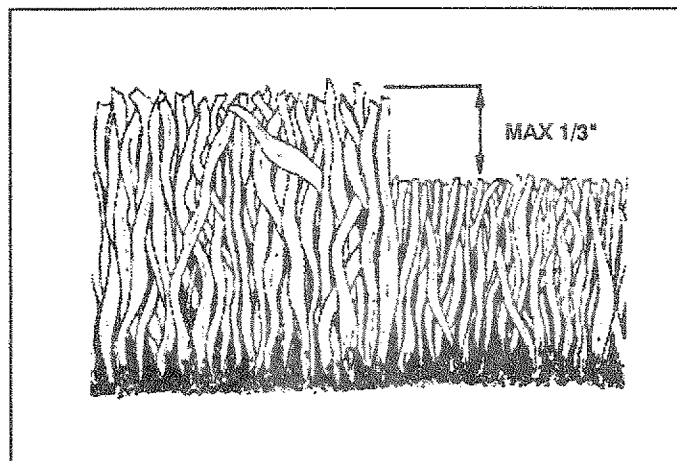

FIG. 12
- For best results, adjust the lawn mower cutting height so that the lawn mower cuts off only the top one-third of the grass blades (See Fig. 12). If the lawn is overgrown it will be necessary to raise the height of cut to reduce pushing effort and to keep from overloading the engine and leaving clumps of mulched grass. For extremely heavy mulching, reduce your width of cut, mow slowly and raise the rear of the lawn mower one wheel adjuster setting higher than the front.